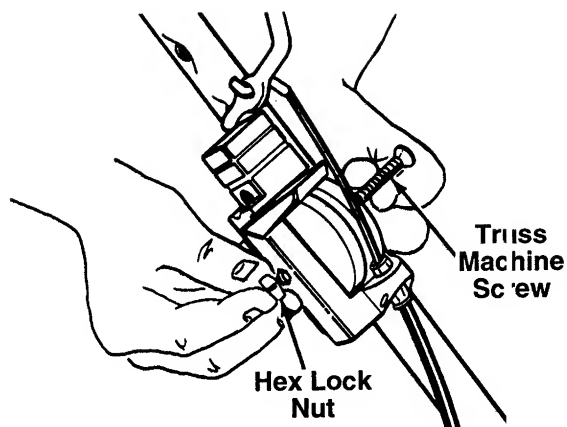

FIGURE 4.
4. Place the control box on the upper handle just below the end of the control handle as shown in figure 4. Secure with hardware removed in step one by placing hex lock nut into the indent on the inside of the control box. Screw the truss machine screw into the hex lock nut.